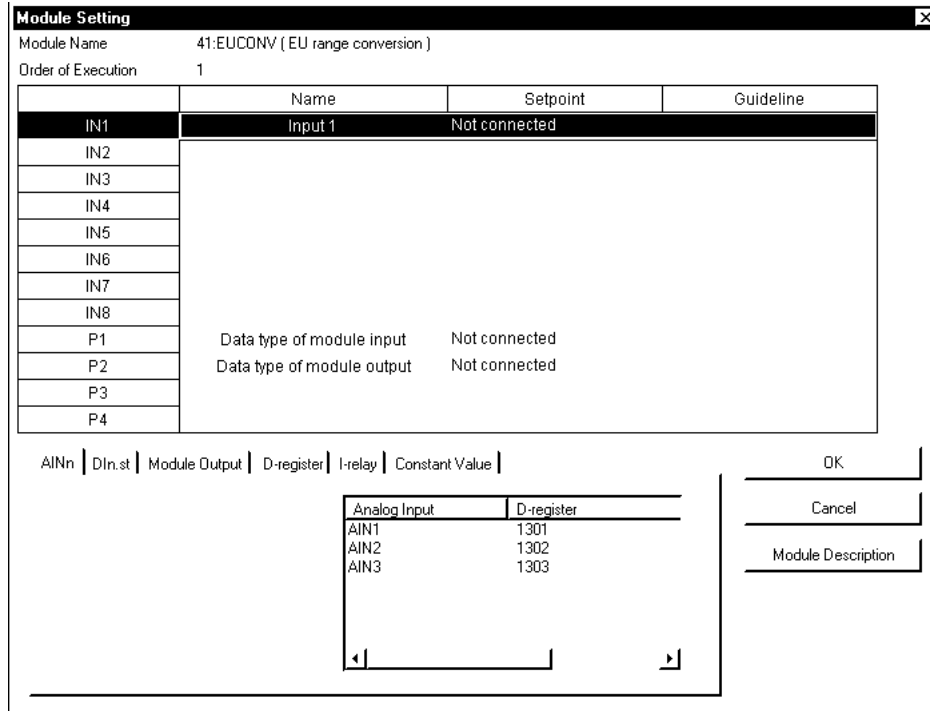

Figure 12.4.6 [Module Setting] Dialog Box
- ① Click the registered first-run EUCONV module.
- ≠ From the tool menus, choose <Editing>, then <Connection>. The [Module Setting] dialog box (Figure 12.4.6) appears.